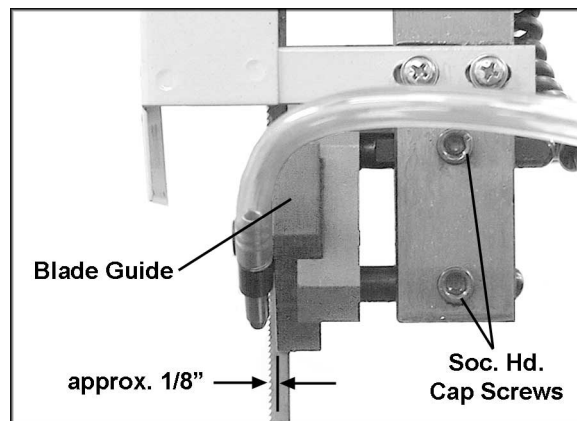

Figure 8
1. Loosen the two socket head cap screws on the guide housing. See Figure 8.
2. Position the guide support in accordance with the width of the blade. The blade guides must be adjusted far enough back to clear the blade even during the cutting operation when the blade is deflected toward the rear. The front end of the blade guides should be adjusted approximately 1/8” behind the blade teeth. See Figure 8.